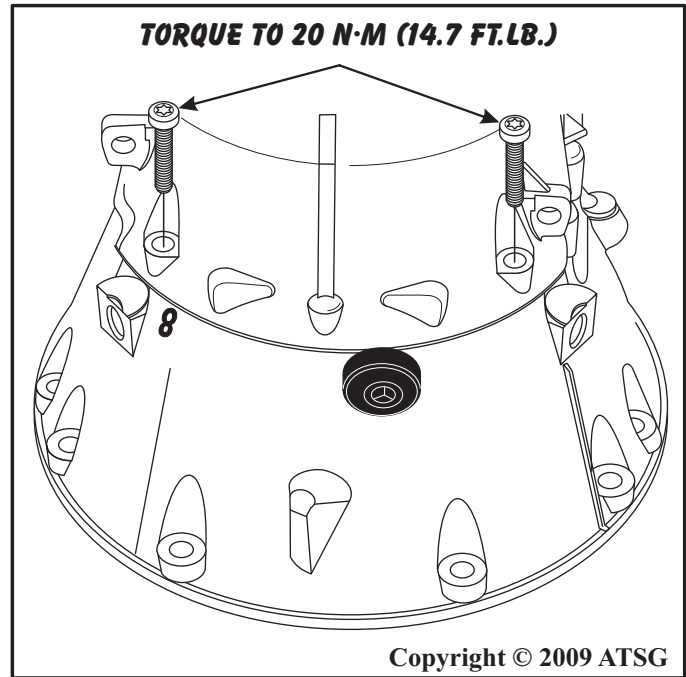

Figure 192
38. Install the two case to converter housing bolts and torque to 20 N·m (14.7 ft.lb.), as shown in Figure 192.